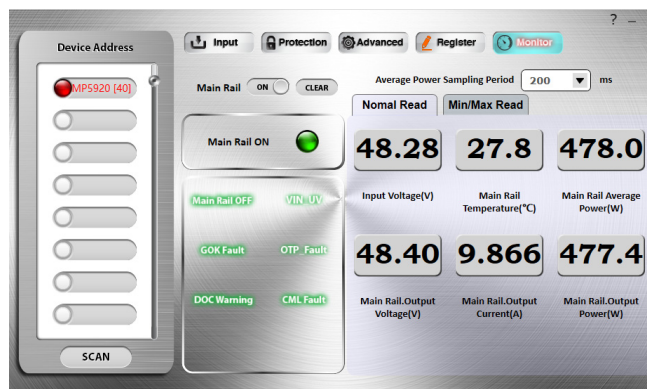

Figure 4: GUI Monitor Page
6. At this point, the system’s operation status can be monitored via the “Monitor” page (see Figure 4)